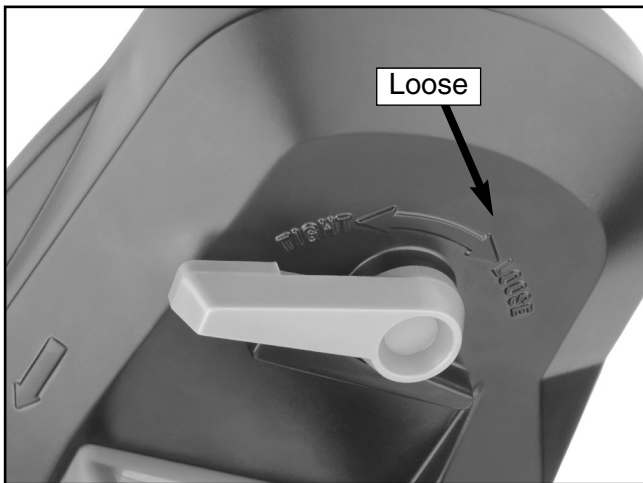

Figure 9. Tension knob.
3. Release tension on the blade by turning the tension control handle to “loose” (Figure 9).